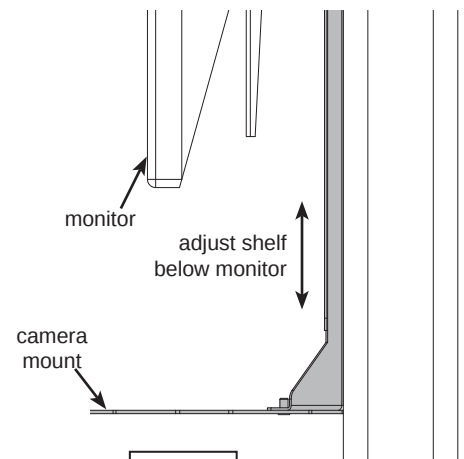

Figure 5
- G. Adjust the camera mount to sit below the installed monitor with enough clearance for your camera, then tighten the bolts securely. **Figure 5.**
- J. After all electrical connections are made, re-attach the display stand back panel with the (6) 1/4-20 x 30mm JC bolts and tighten securely.